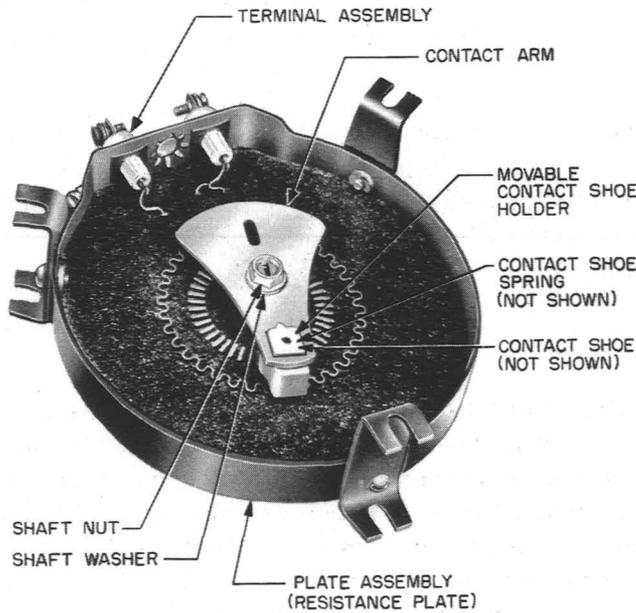

Fig. 3 — KS-15672 Rheostat — Balanced Contact Shoe Construction
(3) The KS-15672 rheostat shown in Fig. 3 has this type of shoe. In this rheostat the contact shoe, mounted in the contact arm, is held against the contact buttons and collector ring by a spring acting between the shoe and arm. Other rheostats using this type of shoe are the KS-5084, KS-5125-01, and KS-5711 faceplate rheostats. In the latter rheostats, the contact shoe engages only the contact buttons. A separate contact is provided for the collector ring.
(4) Remove the shaft nut using the R-1542 adjustable wrench and remove the shaft washer. Substitute new parts as necessary and mount the parts in reverse order of removal.